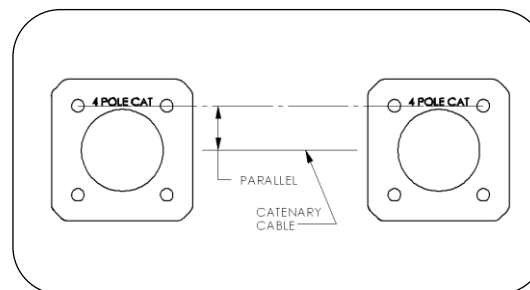

Fig. 1 – Proper Anchor Alignment
2. **Anchors must be aligned parallel to future catenary cables. (see Fig. 1.)**